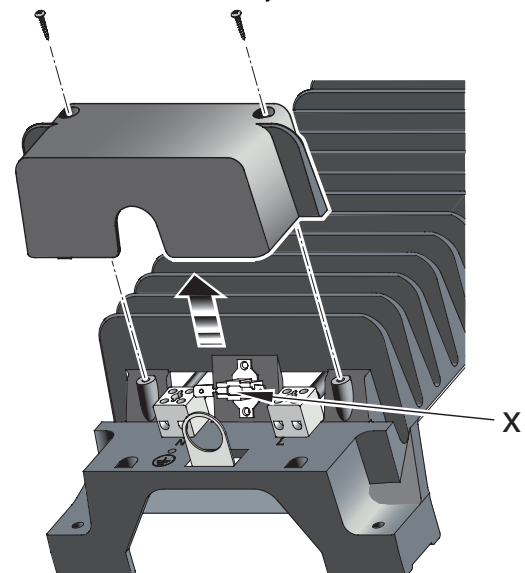

Fig. 2
The Terminal Cover Casting can be removed to access the terminals, by removing the 2 screws fixing the cover - see Fig. 2.
3. Remove the terminal cover to access the thermal cut-out - see **Fig. 2**.
4. Press the reset tab located in the centre of the cut-out (cut-out clicks when reset) - see 'x' in **Fig. 2**.